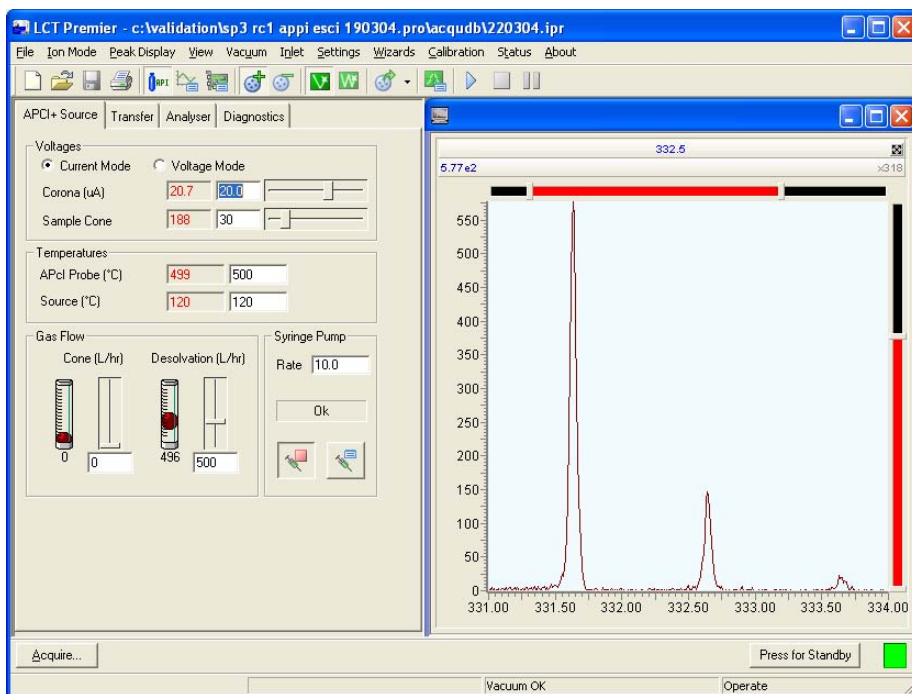

Figure 5-4 Tune Window with a 17  $\alpha$  hydroxyprogesterone Peak
19. Observe the 17  $\alpha$  hydroxyprogesterone peak at m/z 331.2 ( $M+H^+$ ) displayed on the Tune window (see Figure 5-4).
- 27. With the Sample Cone, Corona Cone Gas and APcI probe temperature now at their optimum values, the displayed peak should be similar to that shown in Figure 5-4.